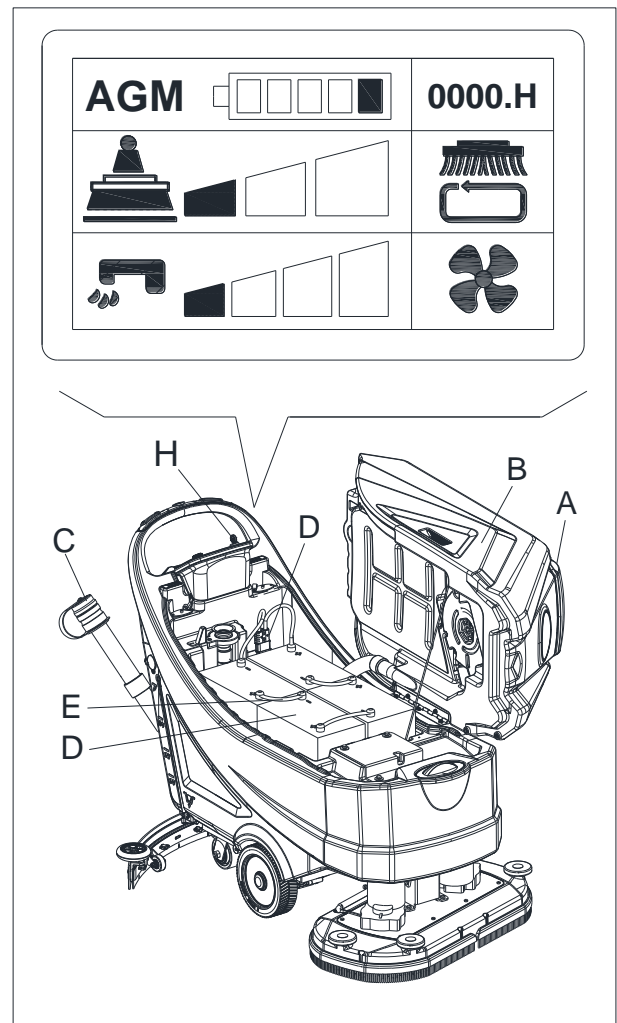

Figure 20
1. Open the cover (A, Figure 20) and check that the recovery water tank (B) is empty, otherwise empty it with the drain hose (C).
3. Turn the ignition key (H) to "0".
4. Carefully lift the tank (B).